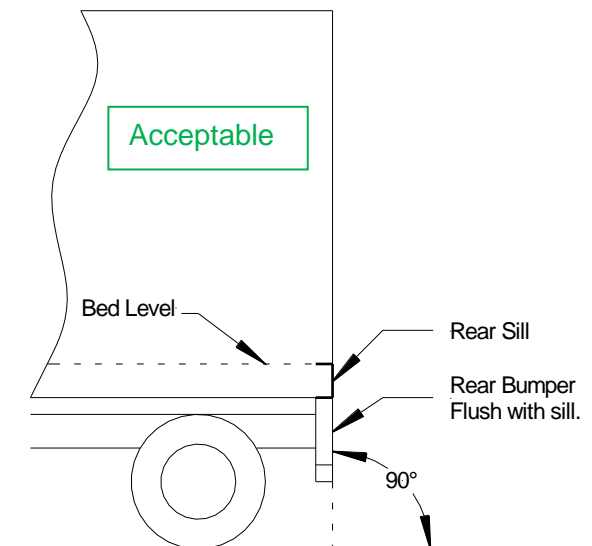

Fig.6
2. Remove Rear Protrusions: Be certain that under ride bumpers, trailer hitches, or other auxiliary equipment do not extend rearward of rear sill, **Fig.6**.